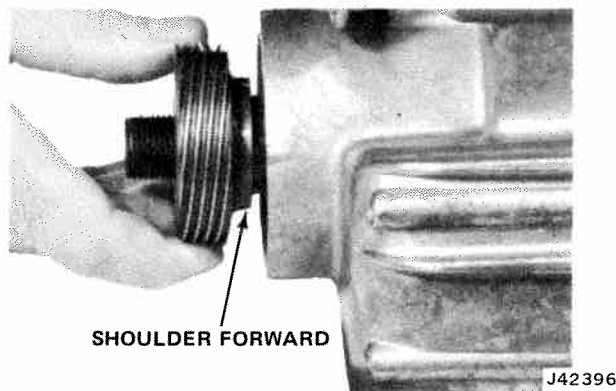

Fig. 8-45 Installing Speedometer Drive Gear
(6) Carefully align and position case cover onto drive sprocket and differential. Output shaft may require slight rotation to align with lockup hub. Be sure drive sprocket thrust washer does not become mispositioned.
(7) If equipped with reduction, install pinion cage onto drive sprocket rear splines. Be sure snap ring seats completely in groove.
(8) If not equipped with reduction unit, assemble drive hub, drive sleeve, and snap ring; then install onto drive sprocket rear splines. Be sure snap ring seats completely in groove.
(9) Rotate drive sleeve or pinion cage to be sure drive sprocket thrust washer did not become mispositioned. The unit should turn easily with no binding.
(10) If not equipped with reduction, install power takeoff sealing ring and cover. Tighten attaching screws (refer to Torque Specifications).
(11) Install speedometer gear on rear output shaft (fig. 8-45).